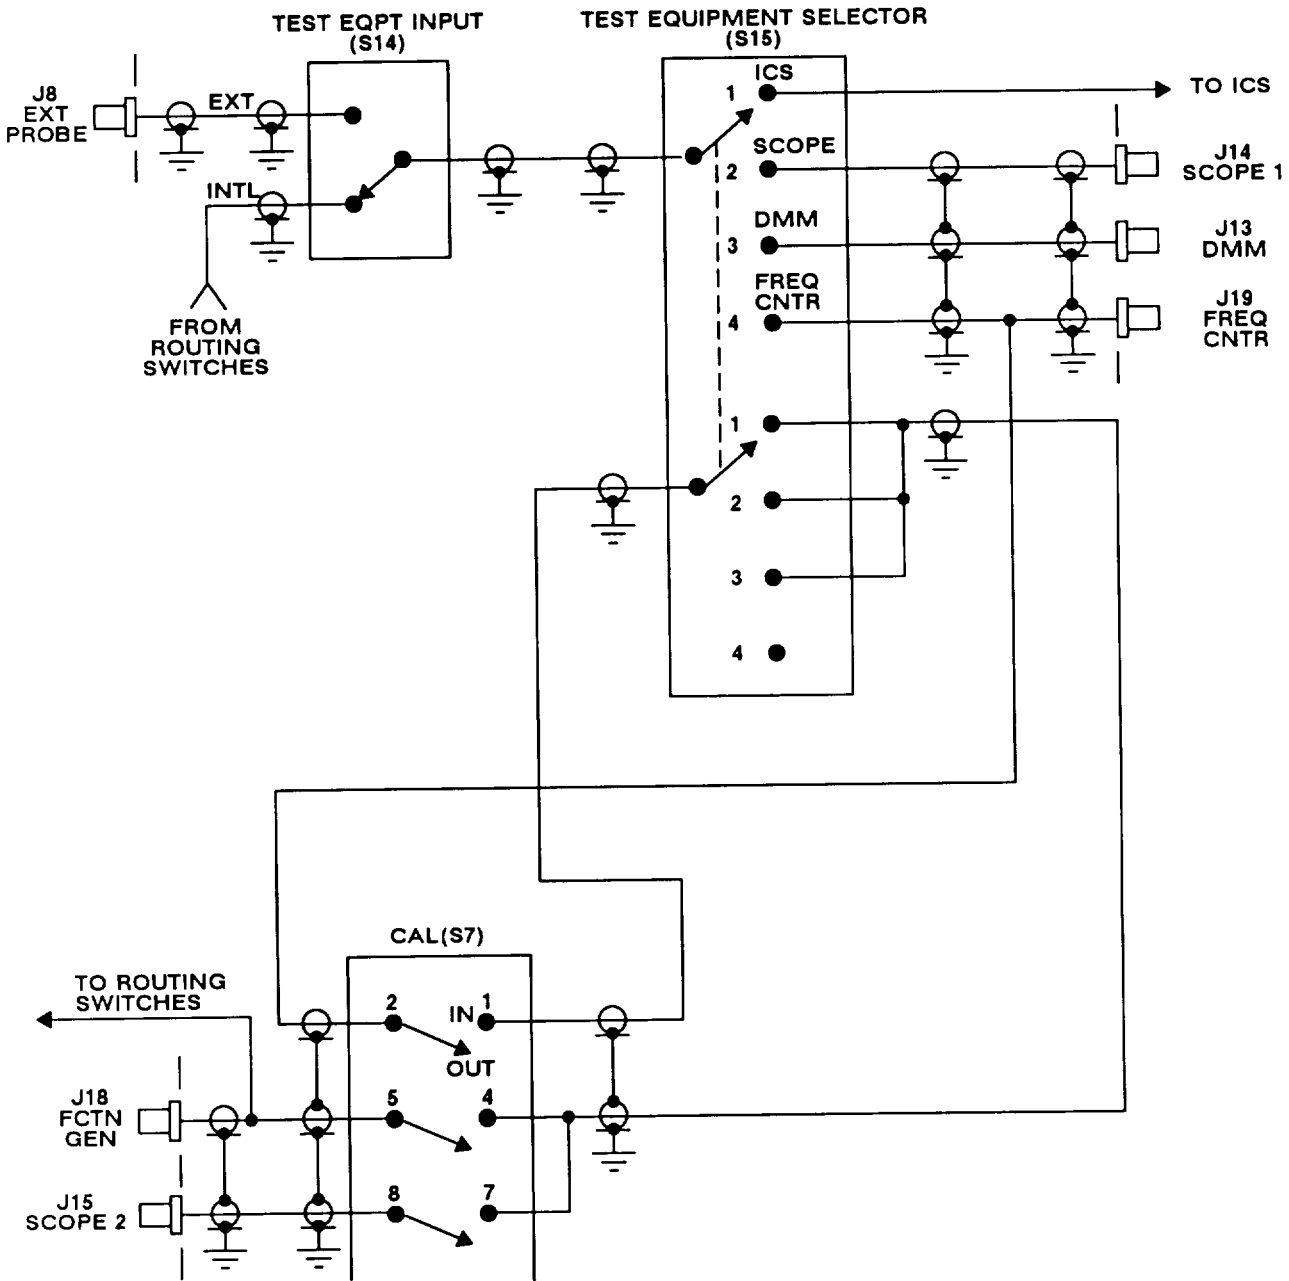

Figure 6-3. Test Equipment Switching Block Diagram
b. Test Equipment Connection and Routing. Connectors J8 through J19 provide input and output ports for test equipment connection to the test adapter. Figure 6-3 gives a partial schematic diagram of the test equipment inputs, outputs, and switching. The routing switches of the test adapter send signals for testing to the test equipment input (TEST EQPT INPUT) switch, S14. When S14 is set for internal signals (INTL), the selected signal is routed to the test equipment. If S14 is set to EXT, then the signal tested will be the one sampled by the external probe (EXT PROBE) connected to J8. S14 sends the selected signal to the TEST EQUIPMENT SELECTOR, S15. Depending on the setting, S15 may send the signal to: